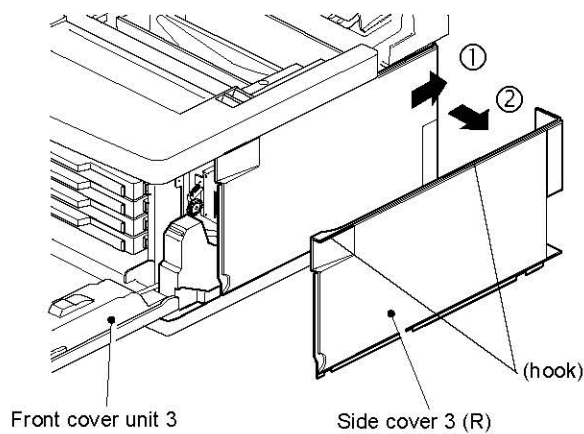

Fig. 7-8
- (2) Slide the side cover 3 (R) in the direction of the arrows as shown in Fig.7-8.
- (3) Remove the side cover 3 (R) by releasing the two hooks.